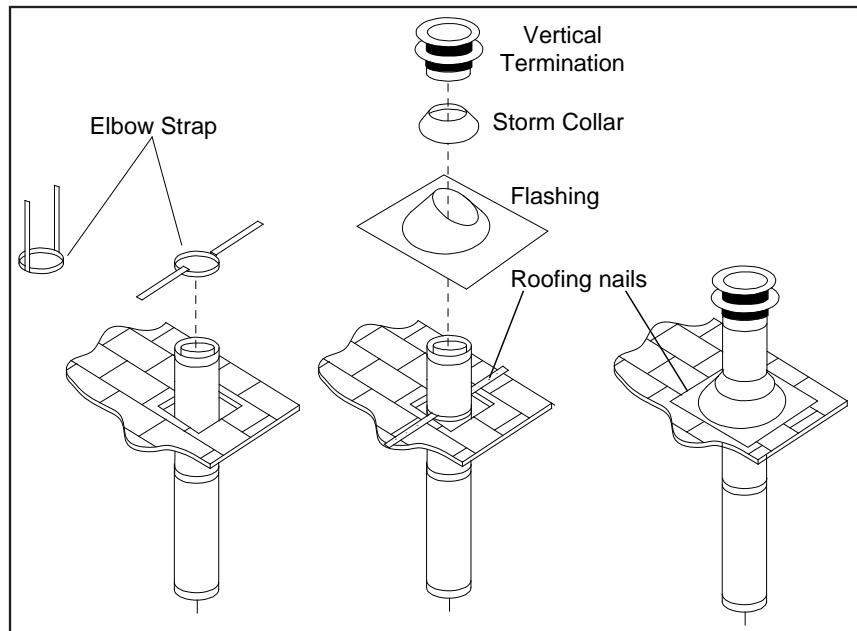

Figure 57: Vertical Vent Termination
Step 6. Once the pipe sections have been joined, and run up through the hole in the roof, slip an elbow strap over the exposed sections, bend the support straps outwards, and push the elbow strap down to the roof level, as shown in Figure 57. Tighten the clamp around the pipe section. Use a level to make sure the pipe is truly vertical. With roofing nails, secure the support straps to the roof. Seal the nail holes heads with non-hardening mastic. Trim the excess length of the support straps that extend out beyond the edge of the flashing.